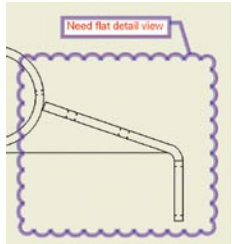

Figure 11
1. To create a revision cloud with comments, click on the Markup tool from the main toolbar. If the rectangular markup cloud is not displayed, click on the down arrow of the Markup tools and select it from the expanded list. (Figures 11–12)